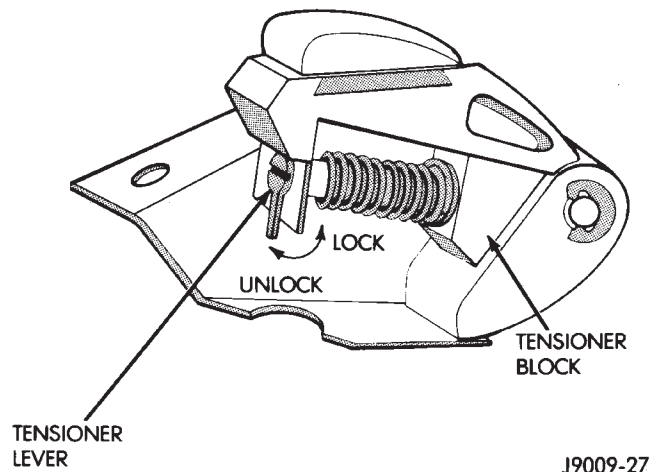

Fig. 49 Loading Timing Chain Tensioner
(8) Turn the tensioner lever to the unlocked (down) position (Fig. 49).
(9) Pull the tensioner block toward the tensioner lever to compress the spring. Hold the block and turn the tensioner lever to the lock position (Fig. 49).
(10) Install the timing chain, crankshaft sprocket and camshaft sprocket with the timing marks aligned.
(11) Install the camshaft sprocket retaining bolt and washer. Tighten the bolt to 108 N·m (80 ft. lbs.) torque.
(12) Release the timing chain tensioner by moving the lever to the unlock position (Fig. 49).